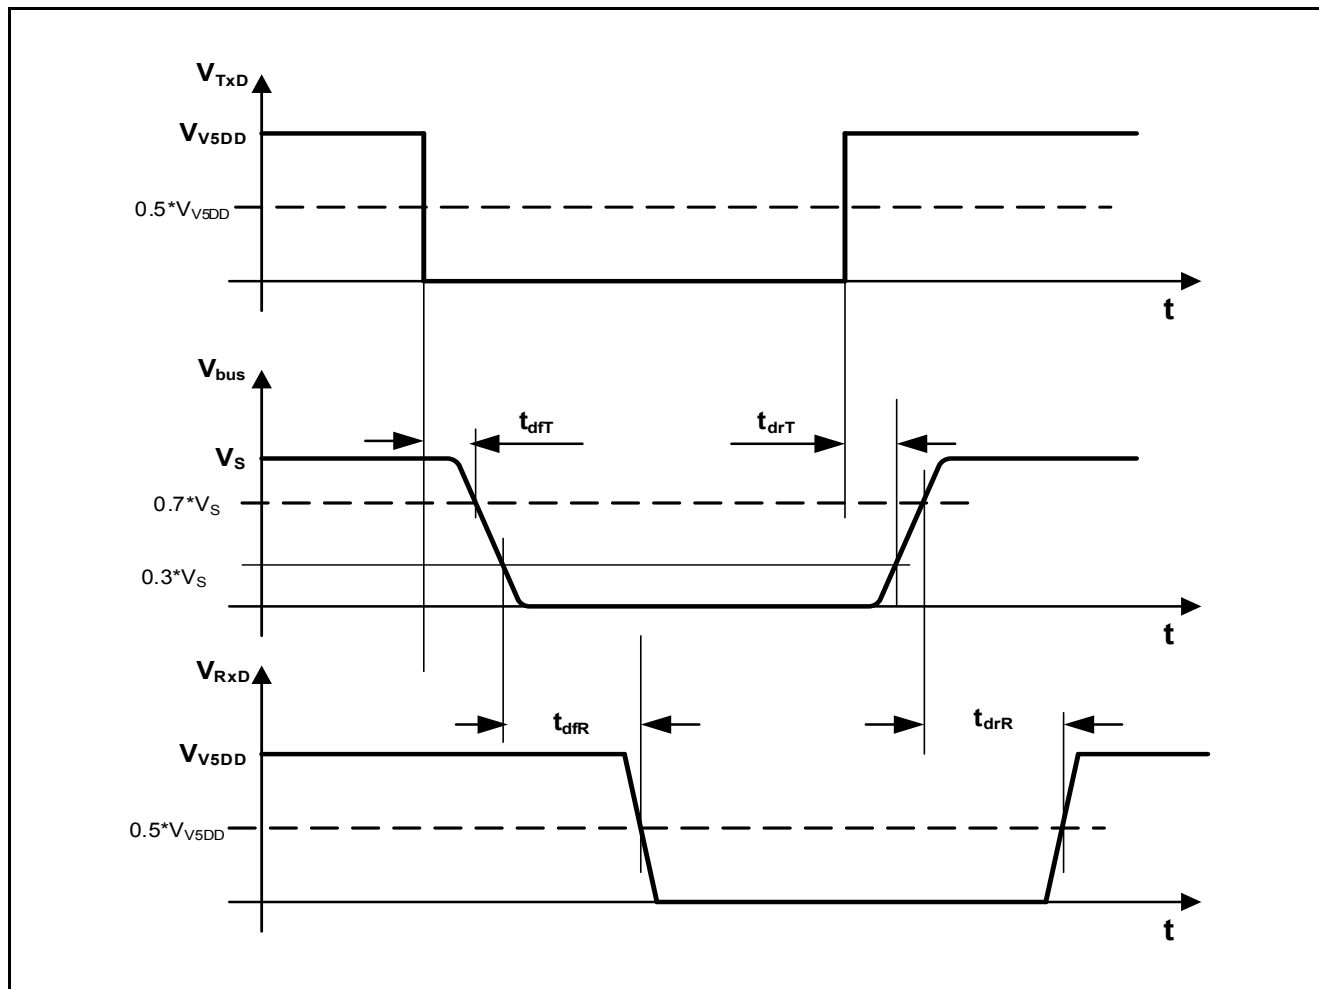

Figure 18 K-Line Transfer Characteristics
1) For definition see **Figure 18**